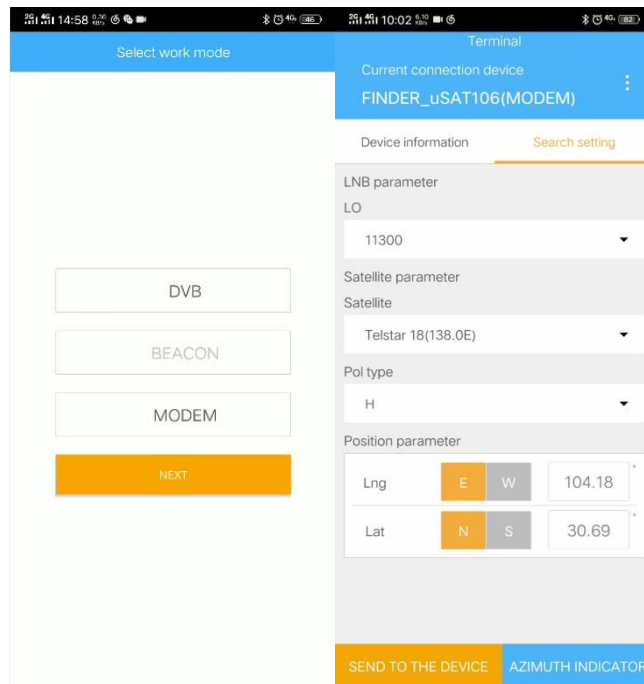

Figure 7-10
6. Selecting the work mode, the device will be fed back to APP according to the mode that it can support. APP provides the mode of choice, as shown in Figure 7-10.